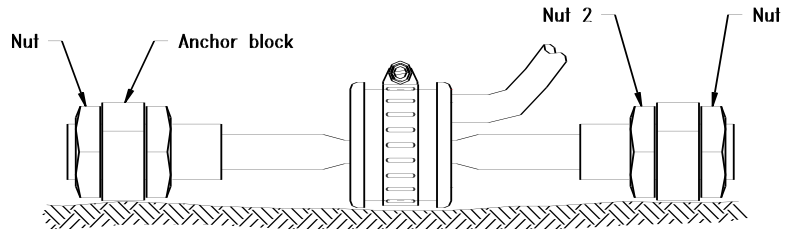

Figure 5: SM-5B installation procedure
3. Referring to Figure 5, turn nut 1 to tension the wire to the pre-determined value. In the NORMAL mode, the reading should be between 1,000 and 2,000 μ seconds. The actual initial reading will depend upon whether or not tensile or compressive strains are